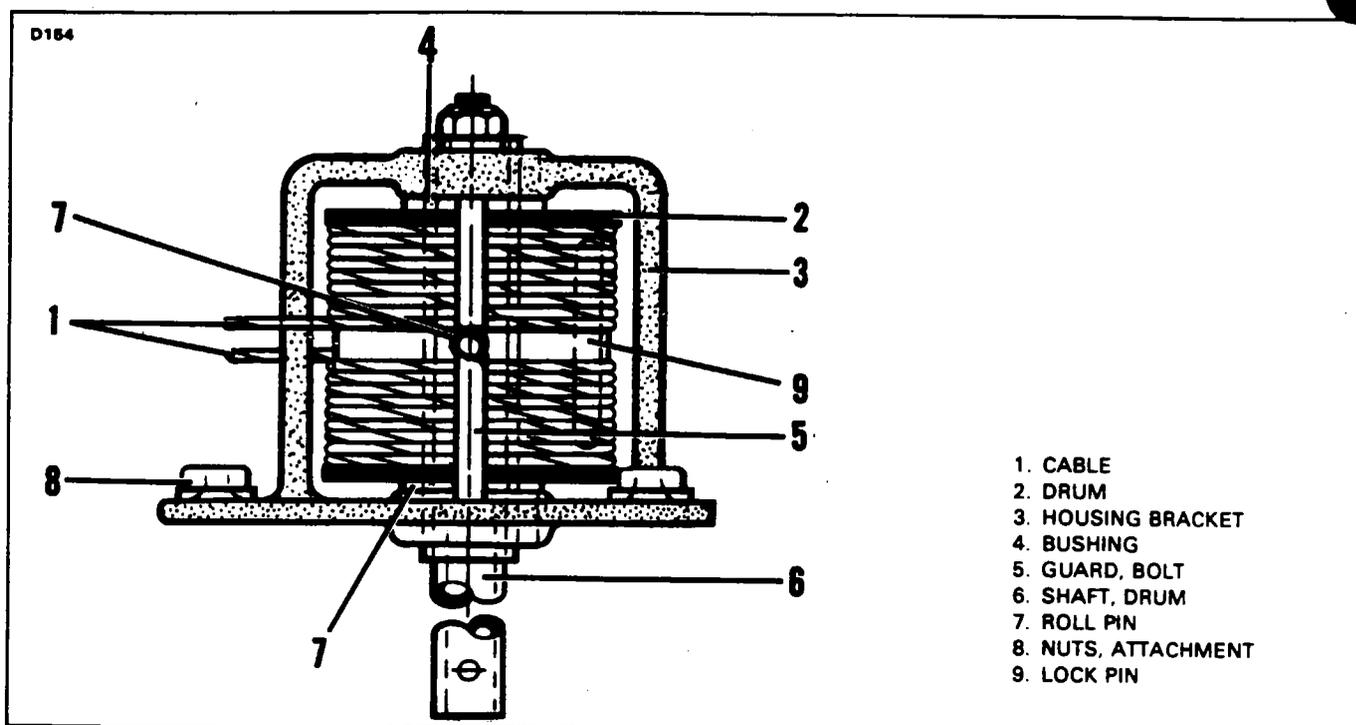

Figure 27-9a. Wrapping Control Pedestal Aileron Trim Drum
**WRAPPING CONTROL PEDESTAL AILERON TRIM DRUM.** (Refer to Figure 27-9a.)
8. Insert the drum in the housing bracket, position the drum and route the cables from the assembly as shown in Figure 27-9a.